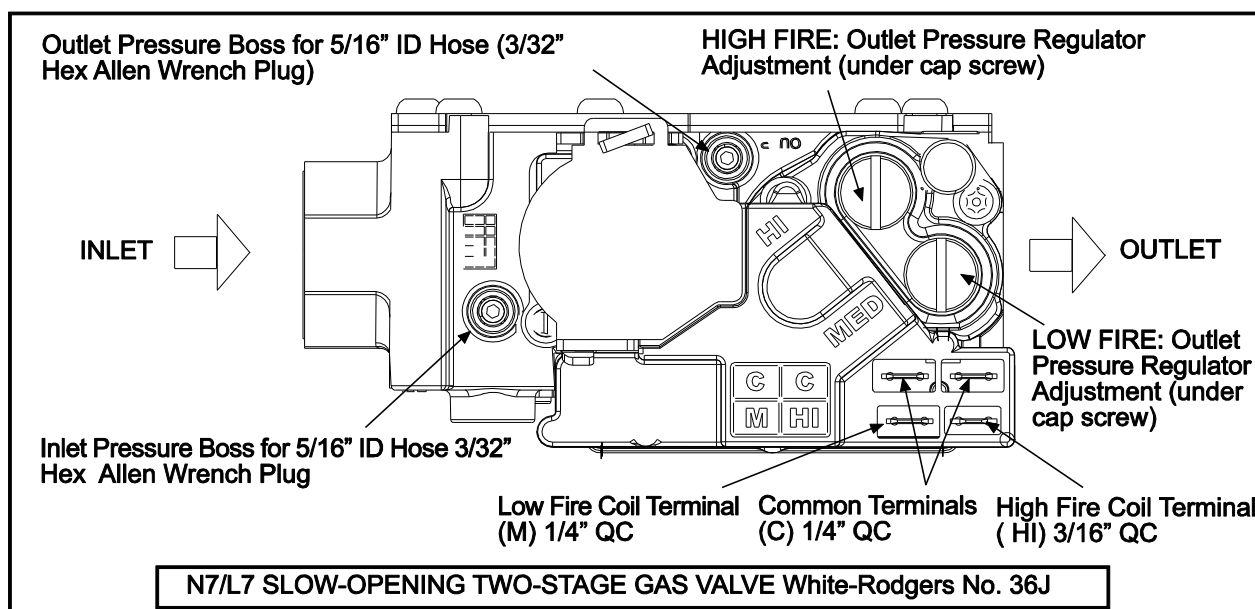

**Figure 2**
2. Remove regulator cover screw from the **low** outlet pressure regulator (see **Figure 2** below) and turn screw clockwise  to increase pressure, or counterclockwise  to decrease pressure. Replace regulator cover screw and tighten securely.
4. Remove regulator cover screw from the **high** outlet pressure regulator (see **Figure 2** below) and turn screw clockwise  to increase pressure, or counterclockwise  to decrease pressure. Replace regulator cover screw and tighten securely.